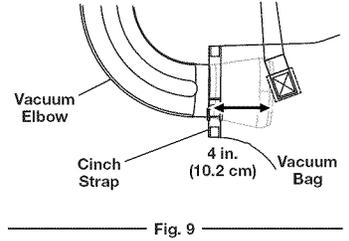

Fig. 9
1. Locate the small opening in the vacuum bag. Insert the flared end of the vacuum elbow approximately 4 inches inside the small opening. (Fig. 9)